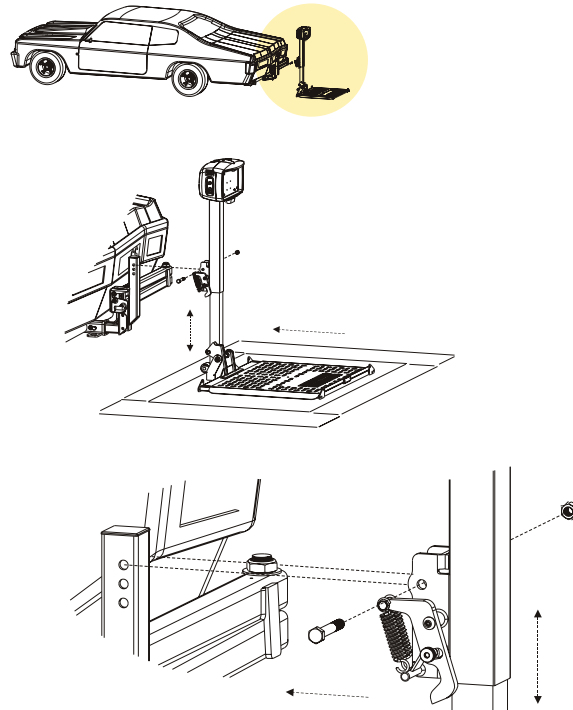

Figure 4-14
4. Stand the lift up, use the toggle switch to line up the hitch post or swing away with the lift and fasten in place. *See Figure 4-14.*